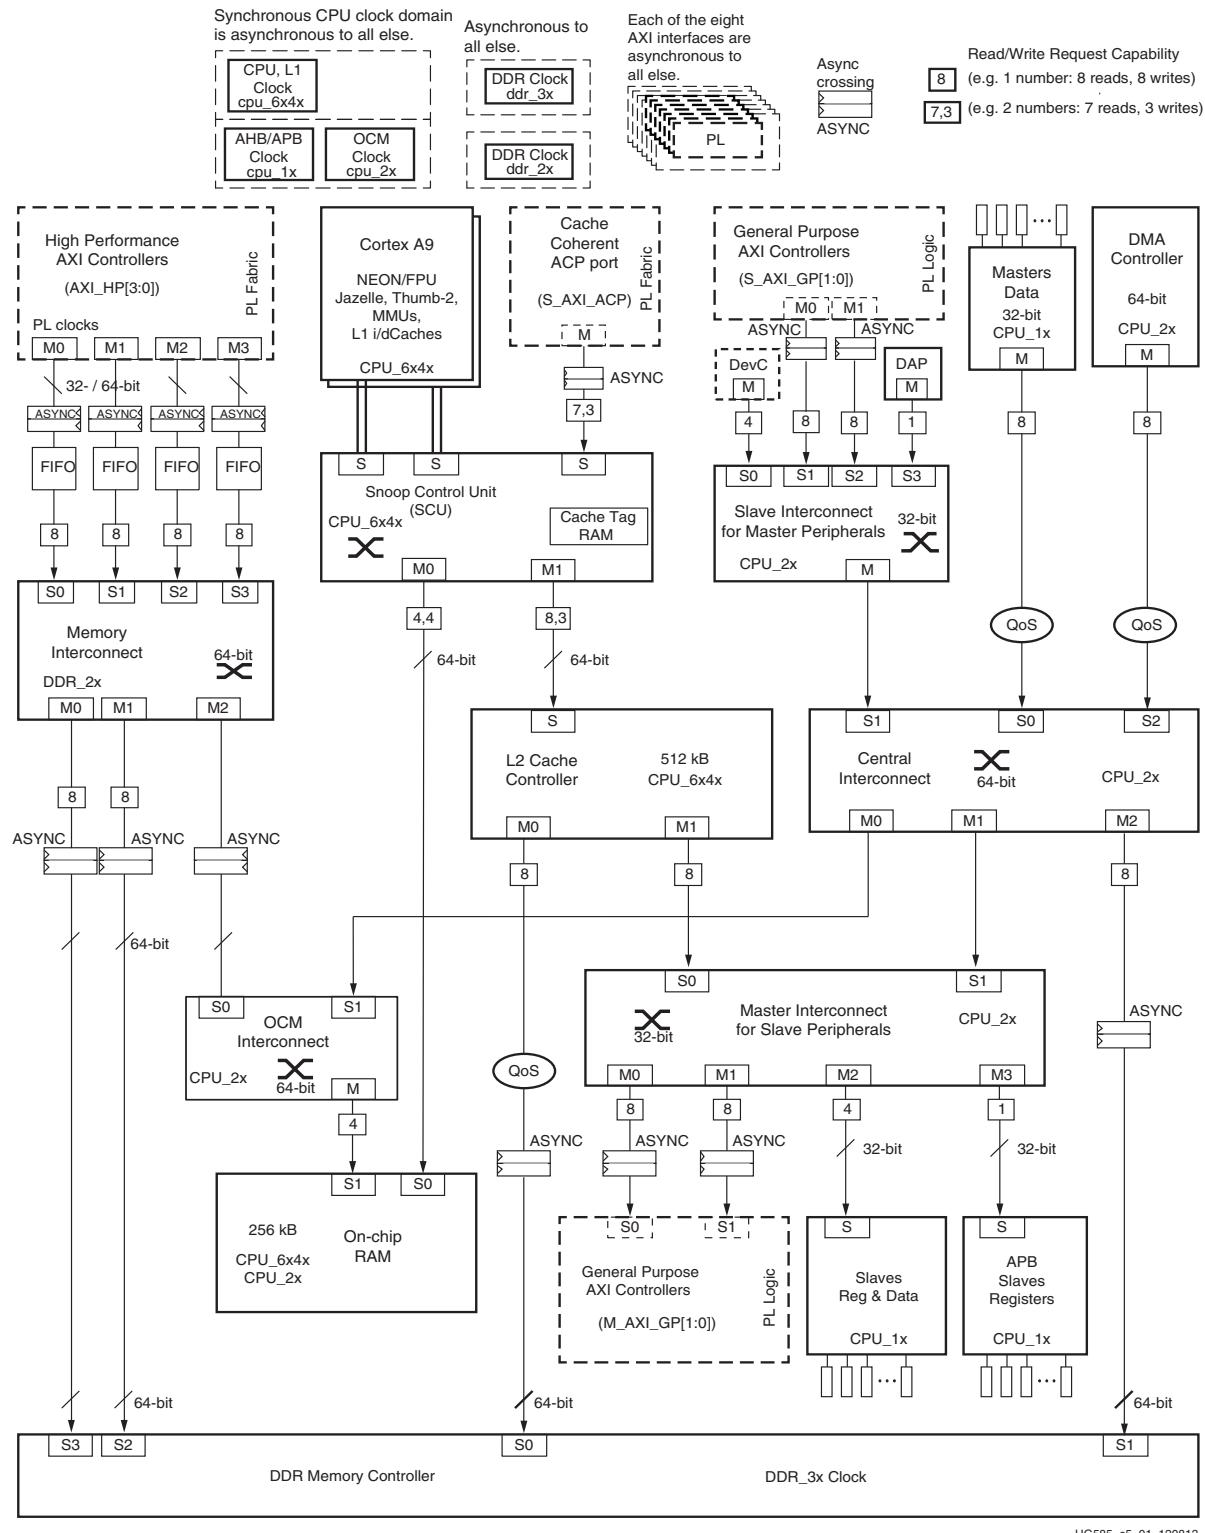

Figure 5-1: Interconnect Block Diagram
This section discusses the block diagram for all the interconnect, including the interconnect masters, the snoop control unit, central interconnect, master interconnect, slave interconnect, memory interconnect, and OCM interconnect. Figure 5-1 shows the block diagram for the interconnect.
The interconnect masters are shown at the top of Figure 5-1, and include:
The interconnect slaves are shown toward the bottom of Figure 5-1. The Interconnect slaves include:
- GPV (programmable registers of the interconnect, not shown in Figure 5-1)